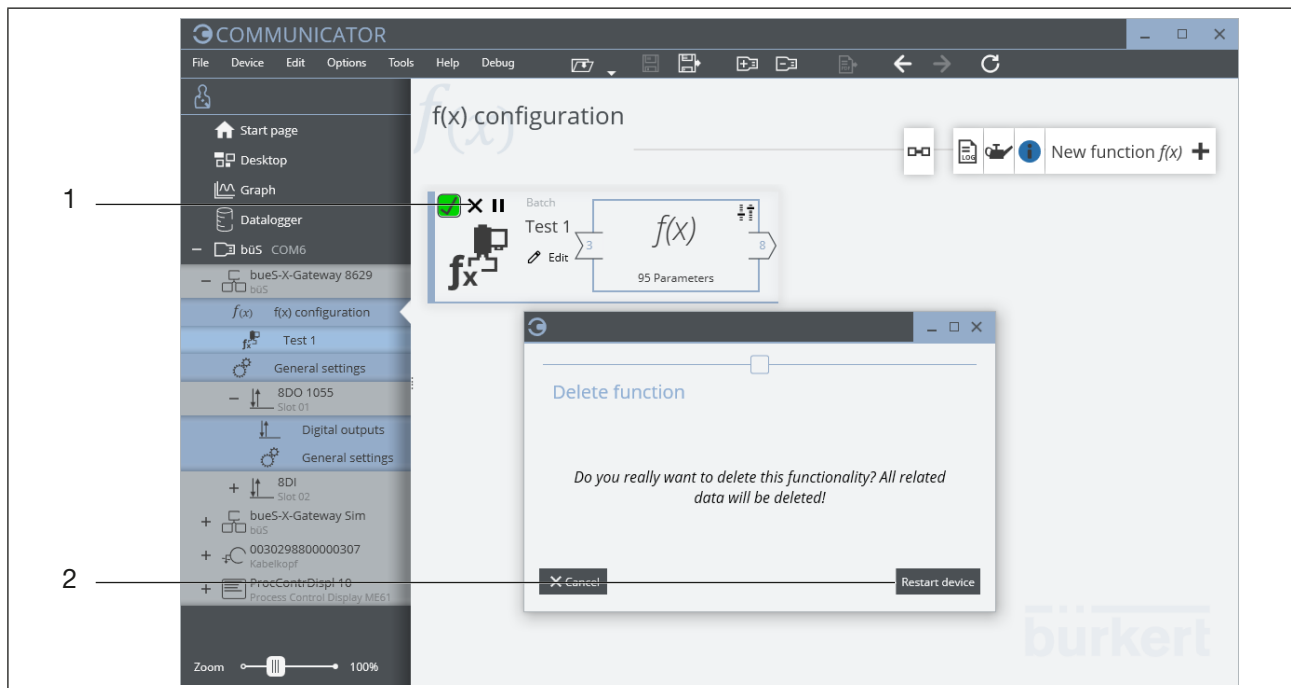

Fig. 29: Delete Batch Controller and restart device
→ Delete Batch Controller via “x” (1) and confirm device restart (2) (see “Fig. 29: Delete Batch Controller and restart device”)